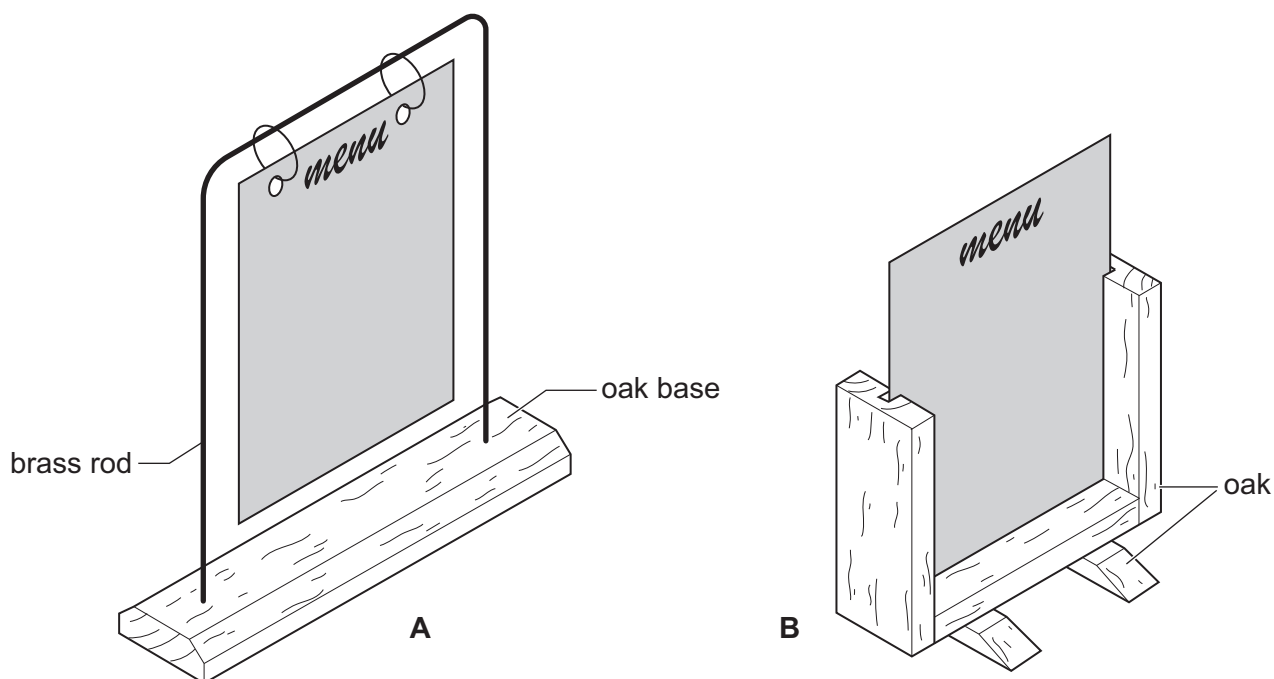

Fig. 13.4
- (h) Fig. 13.4 shows menu stand **A**, produced by the D&T student, and a different menu stand **B**. Compare both menu stands and explain which of the two would be quicker to batch produce.